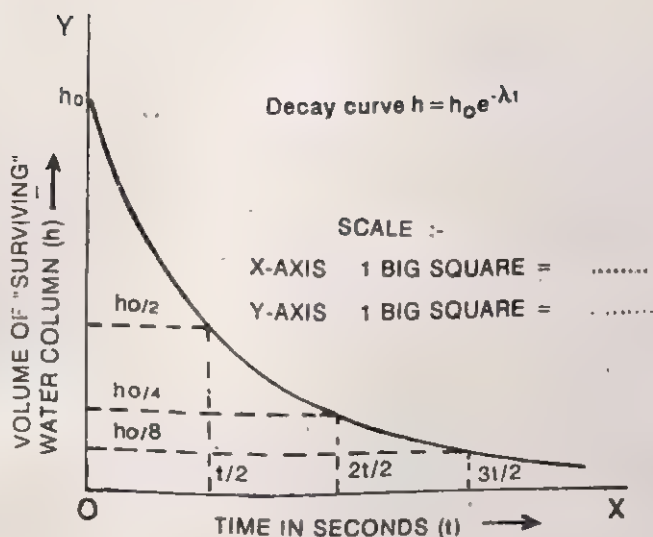

Fig. 7.2.
7. Observe the slope at various points in Fig. 7.2. It will be found that the slope is different at different places. In fact it will be seen that $\frac{dh}{dt} / h$ is constant.